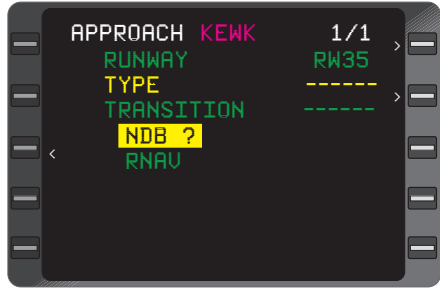

Figure 3-55
7. **ENT** Key - DEPRESS to select Approach **TYPE**. (Figure 3-55)